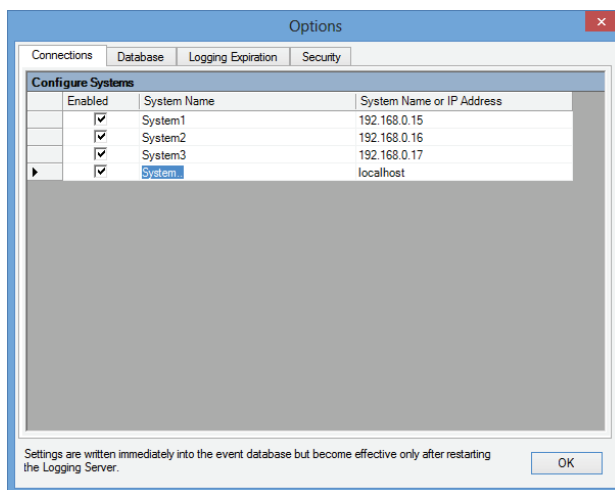

figure 58.6: Add a system (1)
- 1 Click in the *Enabled* field of the row that is marked with an asterisk (\*). A new row is added to the list of systems (see figure 58.6).